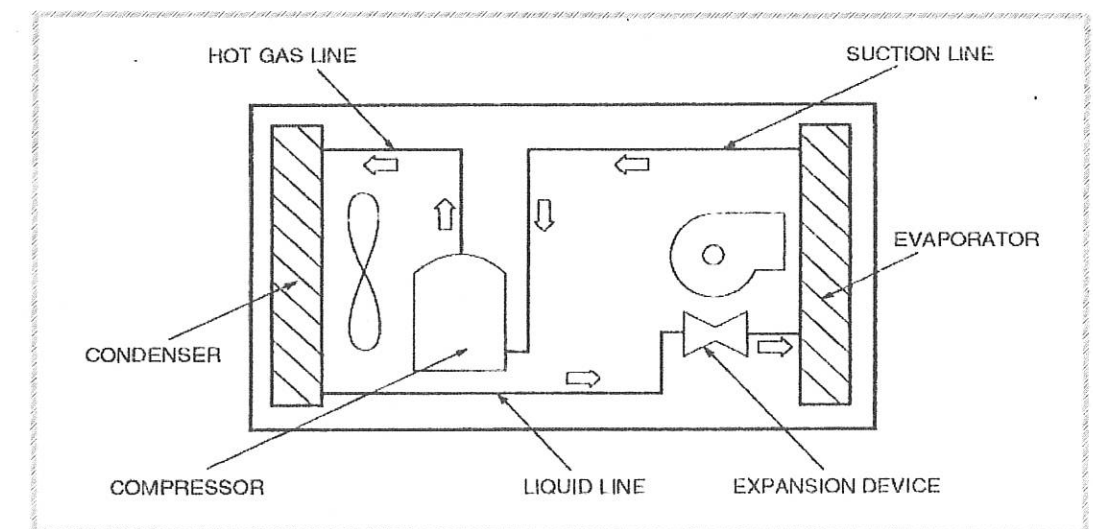

Figure B4
- CLO1 (b) Figure B4 shows the basic refrigerant cycle. Based on the diagram, explain the function of condenser, evaporator, compressor and expansion device.